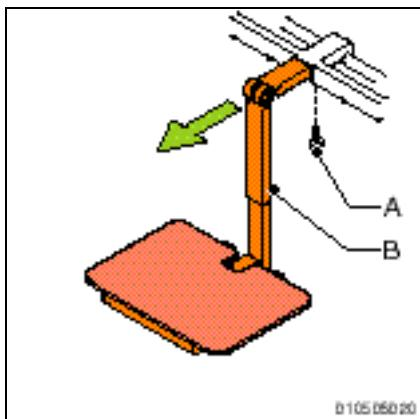

Figure 9
1. Loosen the Allen bolt (A) by a few turns using Allen key 5.
2. Adjust the length of the leg rest (B).
**Leg rest depth (fig 9)**
1. Loosen the Allen bolt (A) by a few turns using Allen key 6.